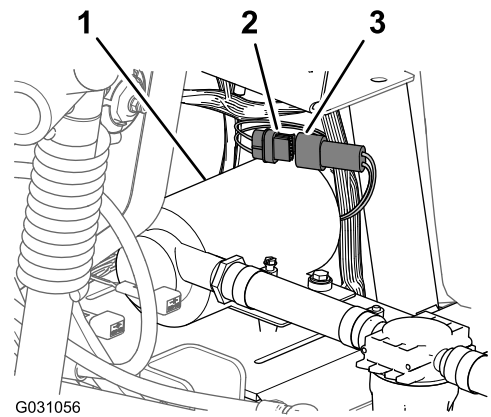

Figure 147
1. Connect the 6-pin connector of the rinse-pump harness from the 6-socket connector of the rear, main harness (Figure 147).